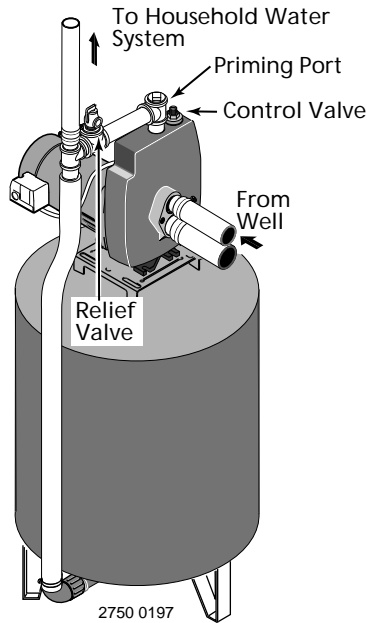

Figure 10: Pre-charged Tank Connections
PRE-CHARGE TANK CONNECTION (Figure 10)
- Step 1. Install a close nipple and a tee in the pump discharge port (see Figure 10). The pipe size must be at least as large as the discharge port. Run a pipe or reinforced hose from one arm of the tee to the port on the pre-charged tank.